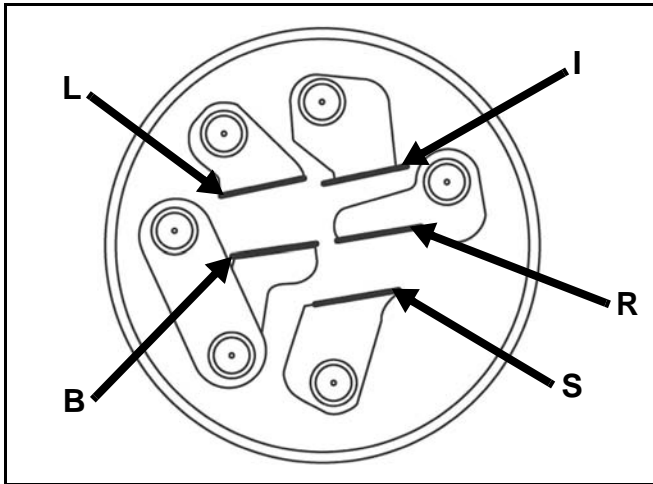

Figure 31
2. Verify that continuity exists between the terminals listed for the switch position. Verify that there is **NO** continuity between terminals not listed for the switch position (Figure 31).